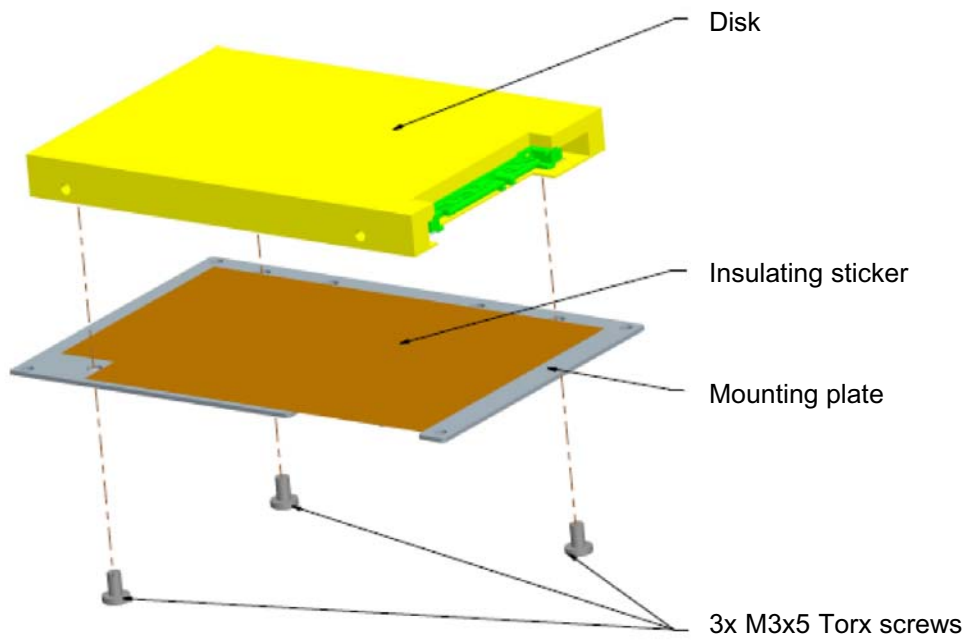

Figure 5: Fixing the SATA Disk
2. Fix the SATA disk on the mounting plate using the three M3x5mm Torx screws as shown in Figure 5.